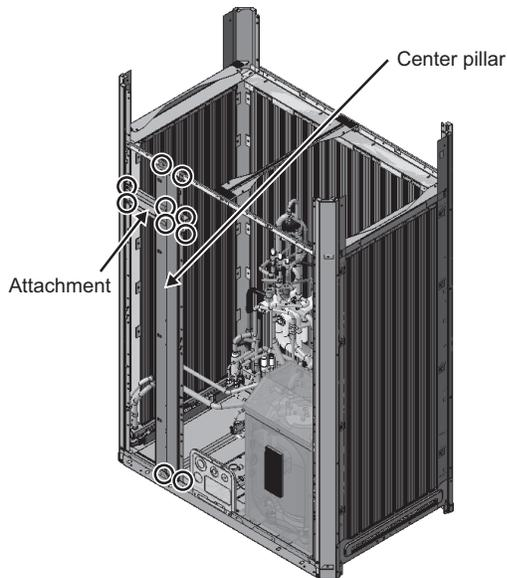

Fig. 38
(10) Remove the center pillar on the front of the unit and the fixing attachment. (Eight screws on the pillar, and two screws on the attachment: Fig. 38)